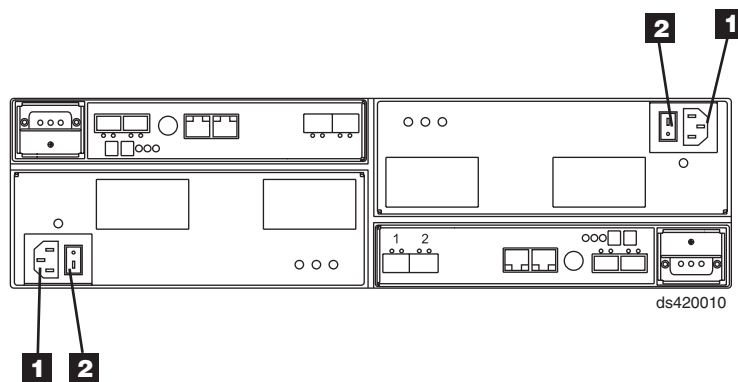

Figure 62. Power supply switches and connectors for the DS4200 Express
6. Turn on both AC power switches on the back of each controller in the storage subsystem. Figure 62 shows the location of the AC power switches on the controllers.
Table 18. Description of Figure 62 on page 82